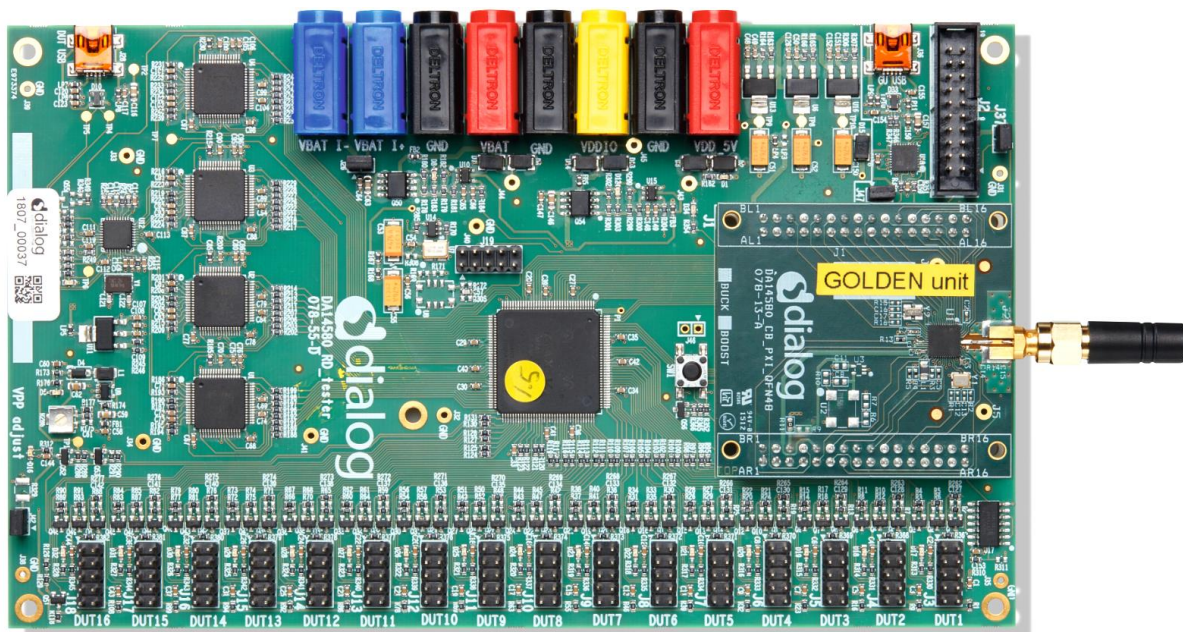

Figure 1: Production Line Tool Hardware
- Main board (Figure 1) together with a DA14580-QFN48 Golden Unit